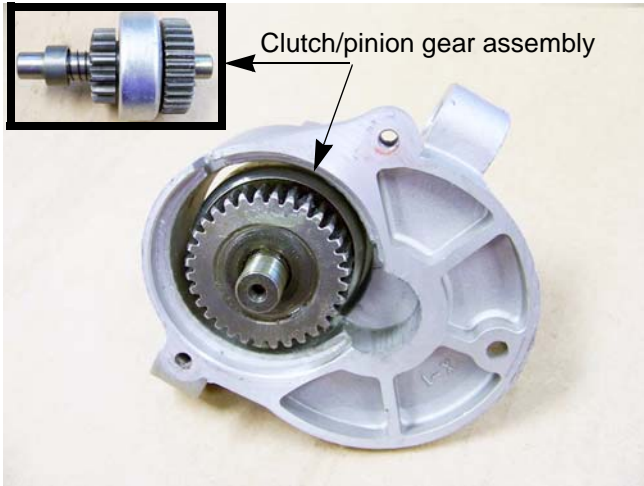

Figure 6.21
4. Insert the clutch/pinion gear assembly into the starter gear housing. See Figure 6.21.